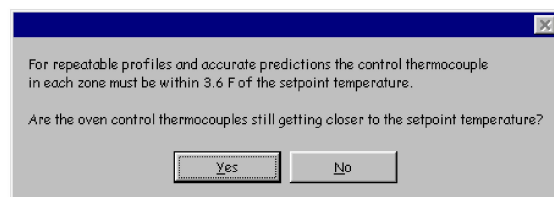

Figure 63
- **No** – The software will ask if the oven is getting closer to the setpoints. See Figure 63.